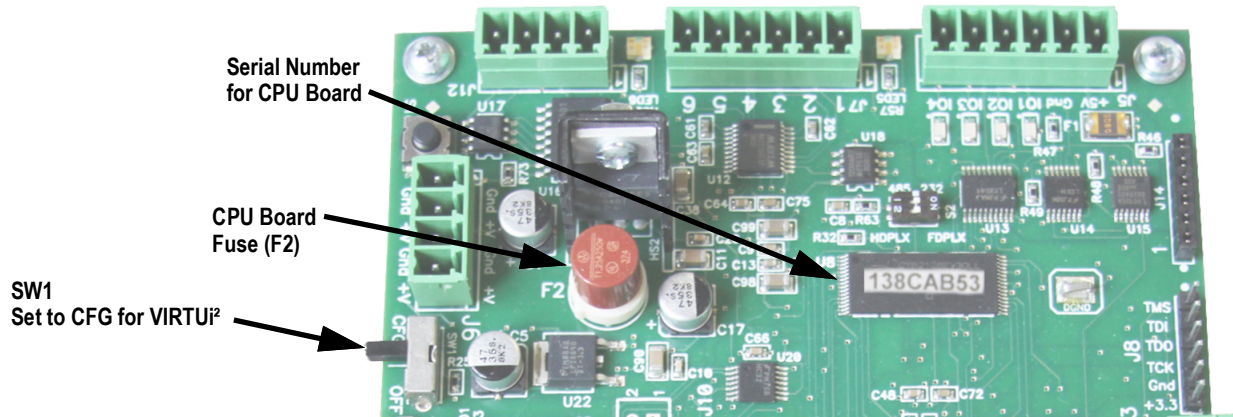

Figure 5-1. SW1 Location on CPU Board
3. For each secondary device, enter the desired ID (located on the CPU board; see Figure 5-1 on page 68).
1. Set SW1 to CFG, if not currently connected to the iQUBE². See Figure 5-1 on page 68.